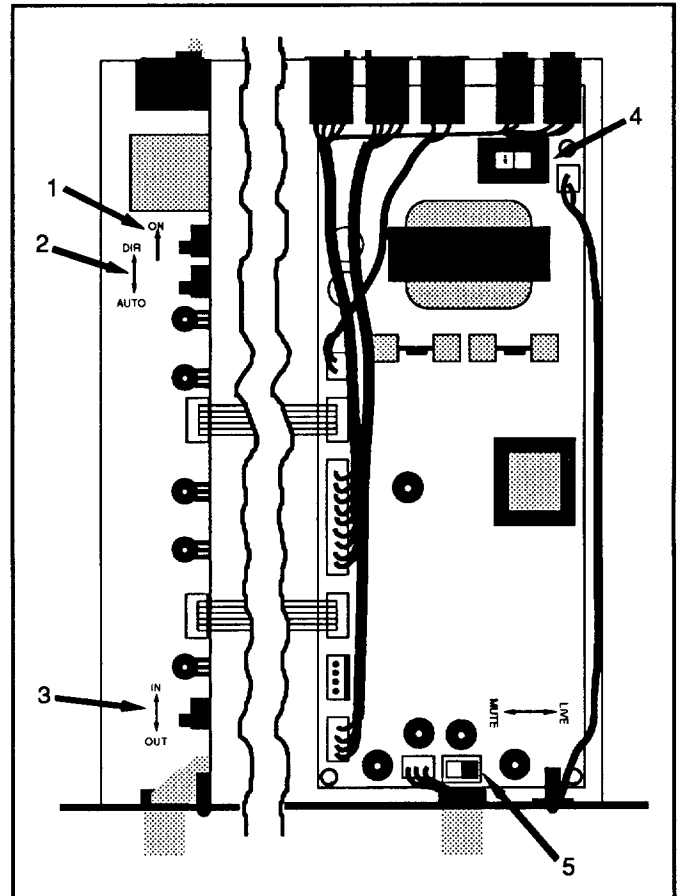

Figure 8: Internal Features.
3.3 Internal Features (Refer to Figure 8)
1. Remove the top panel and set the internal controls to the desired positions. Refer to Section 3.3 and Figure 8 of this manual for explanation of these controls.